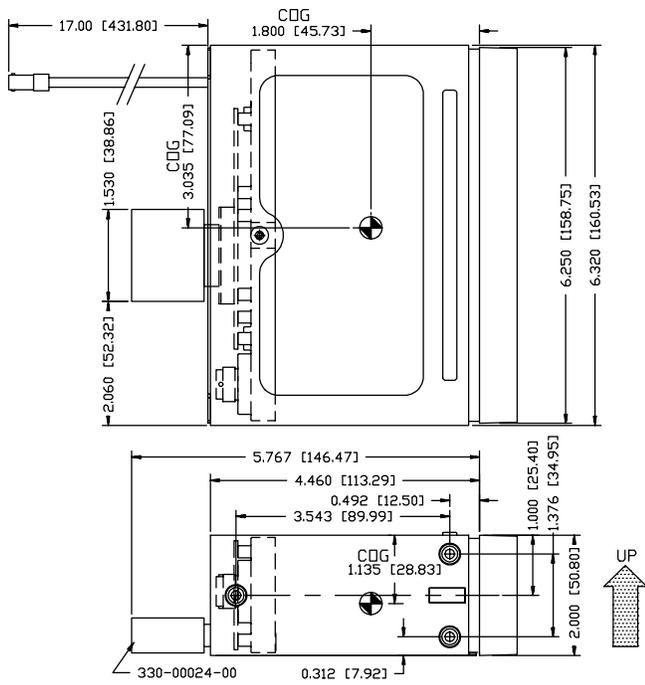

FIGURE 3-3 AVIATION RACK DIMENSIONS
A. Figure 3-3 shows outline dimensions for the aviation rack. Install the rack in a rectangular 6.320" x 2.000" hole in the instrument panel. Exercise caution when installing the rack into the instrument panel. The rack is designed to facilitate removal of the GPS 100 for portable use. Deformation of the rack may make it difficult to install and remove the GPS 100.